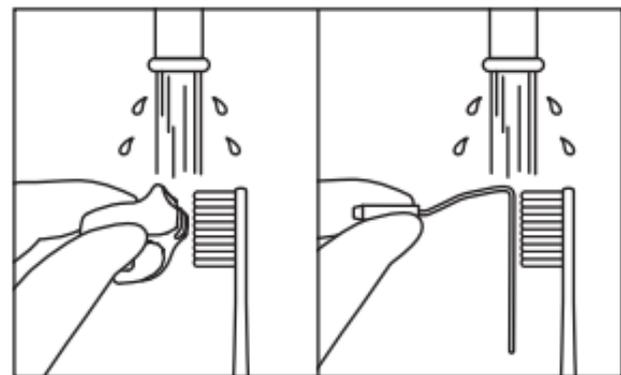

Fig. 18 23
- 3) Clean the external surfaces of the internal spray nozzle and nozzle holder with a soft bristled toothbrush for each 15 seconds or more. (Fig. 18)